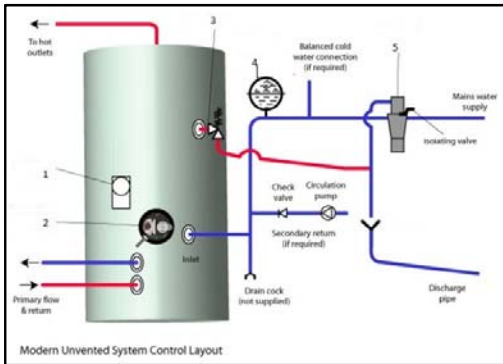

Figure 1
a) Explain the operation of components labelled 1, 2, 3, 4 and 5 in Figure 1.